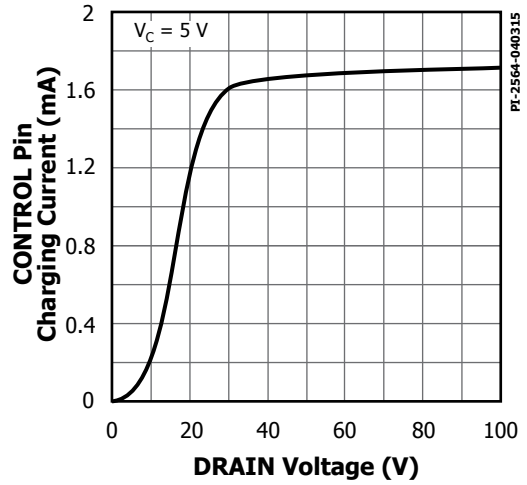

Figure 68. I_c vs. DRAIN Voltage.
- E. It is possible to start up and operate TOPSwitch-GX at DRAIN voltages well below 36 V. However, the CONTROL pin charging current is reduced, which affects start-up time, auto-restart frequency, and auto-restart duty cycle. Refer to Figure 68, the characteristic graph on CONTROL pin charge current (I_C) vs. DRAIN voltage for low voltage operation characteristics.